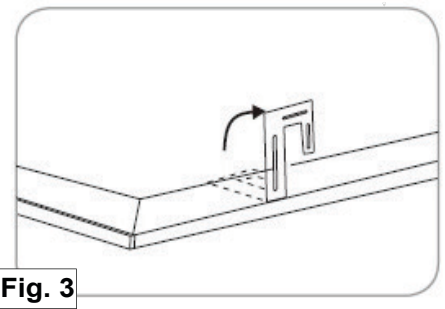

Fig. 3
3. Locate the earthquake clips, bend tabs upright (Fig. 3).